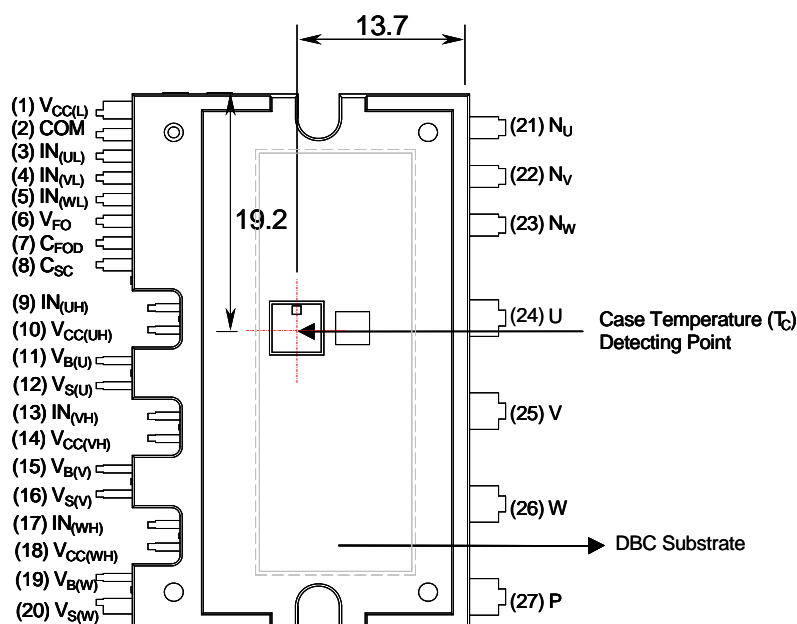

Figure 2. Top View
2. For the measurement point of case temperature(T_C), please refer to Figure 2.